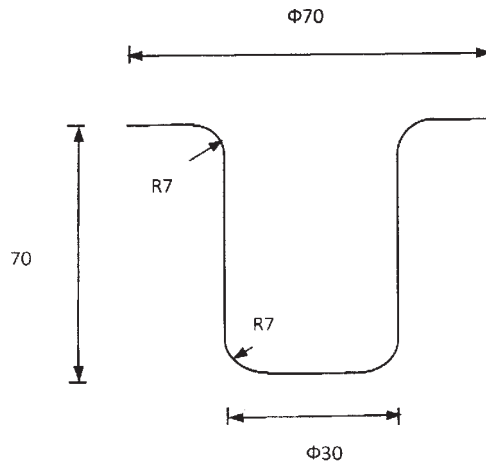

Figure 2
- Q3)** Design a Drawing die for the component as shown in figure 2.
- Q4)** a) Calculate blank size required to form a cup (figure 2) using graphical method. [8]